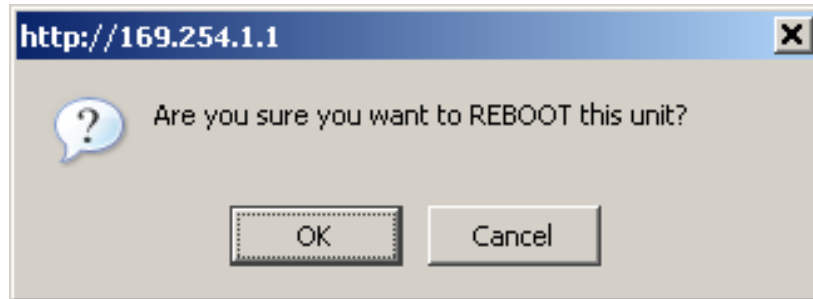

Figure 128 Configuration Reboot Screen
6. Reboot both ends of the link **Figure 128**. The software is designed to allow five seconds so that a user can command both ends of the link to reboot before the wireless link drops.